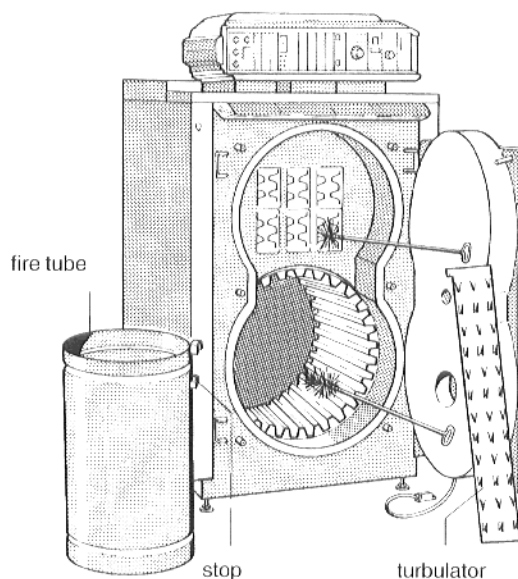

Fig. 19
- Open the boiler door, remove the fire tube from the combustion chamber and the turbulators from the downstream heating pockets (Fig. 19)